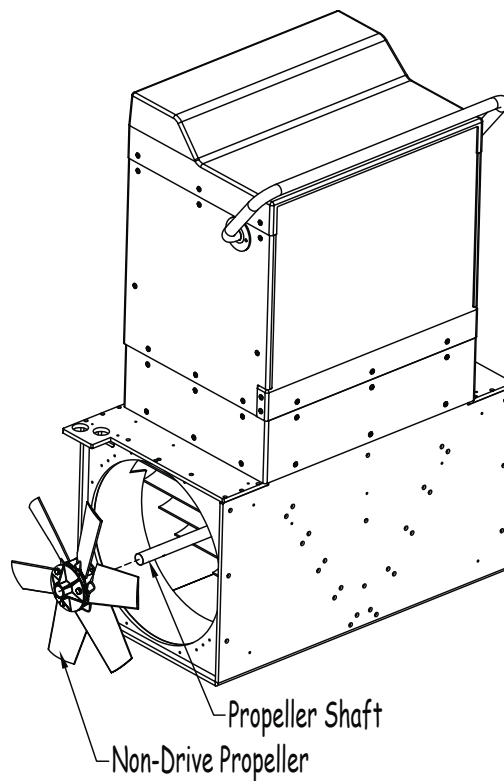

Fig 22
21. Slide the non-drive propeller off of the propeller shaft (Fig 22).